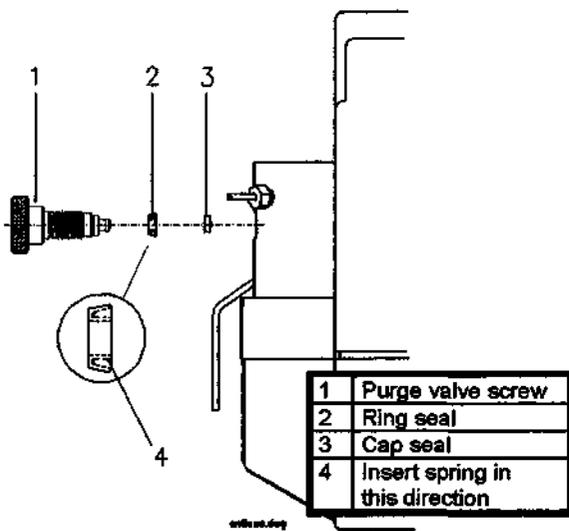

Fig. 19: Removing the purge valve screw
- Place the new ring seal (Part no.: 2266.0311) onto the purge valve screw. Insert in the correct direction (see fig. 19).